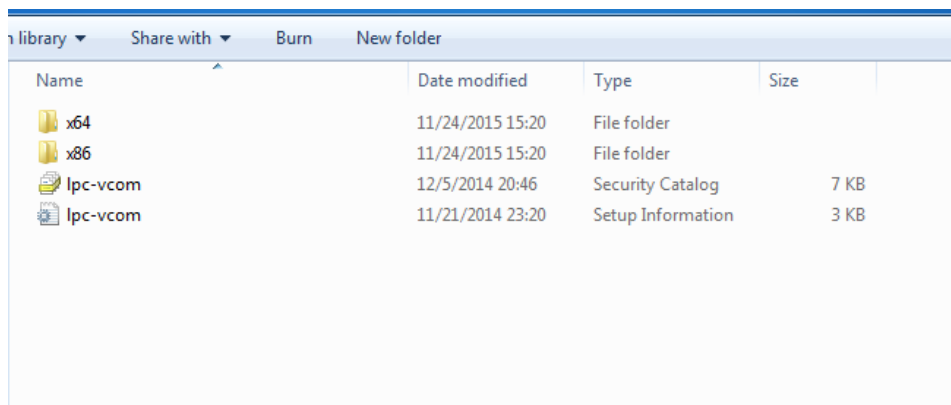

Fig. 5. Device driver folder content
- Select “x86” driver for a 32-bit machine or x64 for a 64-bit machine. If not sure, select a root folder (folder in which x64 and x86 lay inside, as in Fig. 5.)